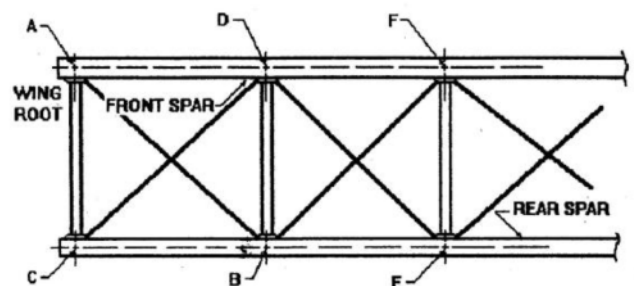

Figure 4 Trammel Touch Points
3. Starting at the root end of the wing, set one point at the root compression member centerline mark on the front spar (A). Use figure 4 Trammel Touch Points for reference. Adjust the second point to the centerline mark diagonally on the rear spar of the next compression member (B).